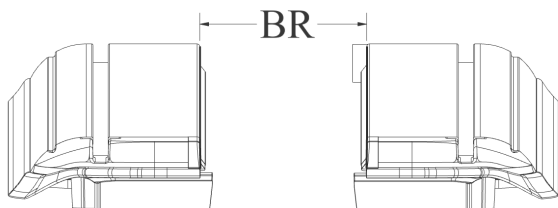
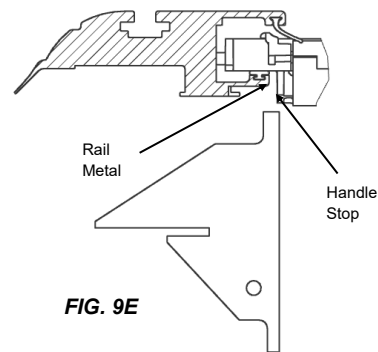

FIG. 9C
FIG. 9E
Now tighten your clamp turn knobs hand tight. Finally, check for proper spacing by measuring between the rails by attempting to insert the BR Gauge in between the rail metal and the handle stop (FIG 9E). You can also check the between the rail measurement at the canister and the tailgate end of the rails. The measurements should be equal to or less than those in Figure 9C. The Clamp Extensions have been pre-installed with brackets and shims to achieve the proper Between the Rail dimension (BR) when placed on an average factory truck bed. However, not all truck beds are average dimensionally and some have optional plastic caps or over the rail spray-in liners.